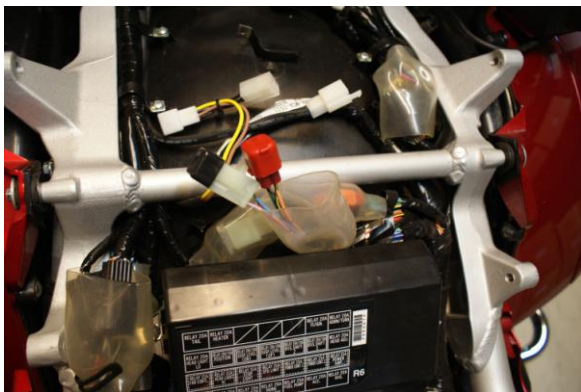

Figure 3
5. Located under seat behind main Breaker box you will find a clear weather boot containing a three pin connector with a black plug-in module. Unplug black module and plug in trailer wiring harness three pin connector. Plug black module into trailer wiring harness three pin connector. **(Figure 3 and 4)**